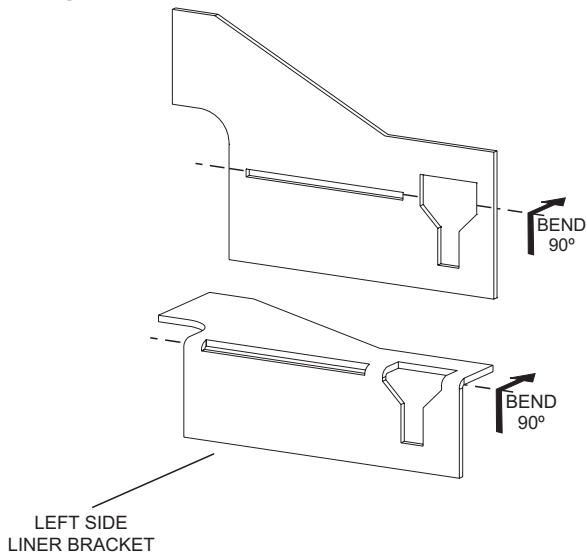

Figure 3
4. Bend one side liner bracket as shown for left side. See **Figure 3**.